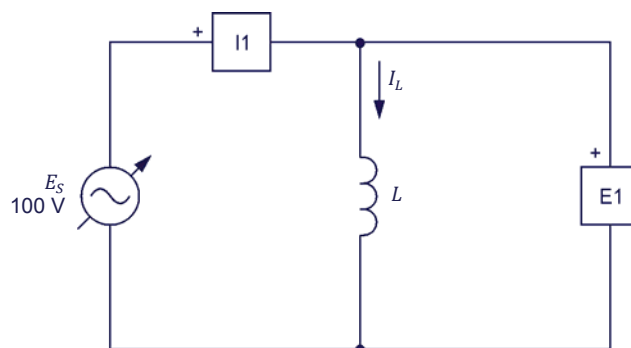

Figure 2-4. AC circuit containing an inductor.
6. Set up the circuit shown in Figure 2-4.
The value of the inductance L to be used in the circuit of Figure 2-4 depends on the frequency of the ac power source, as indicated in Table 2-1.